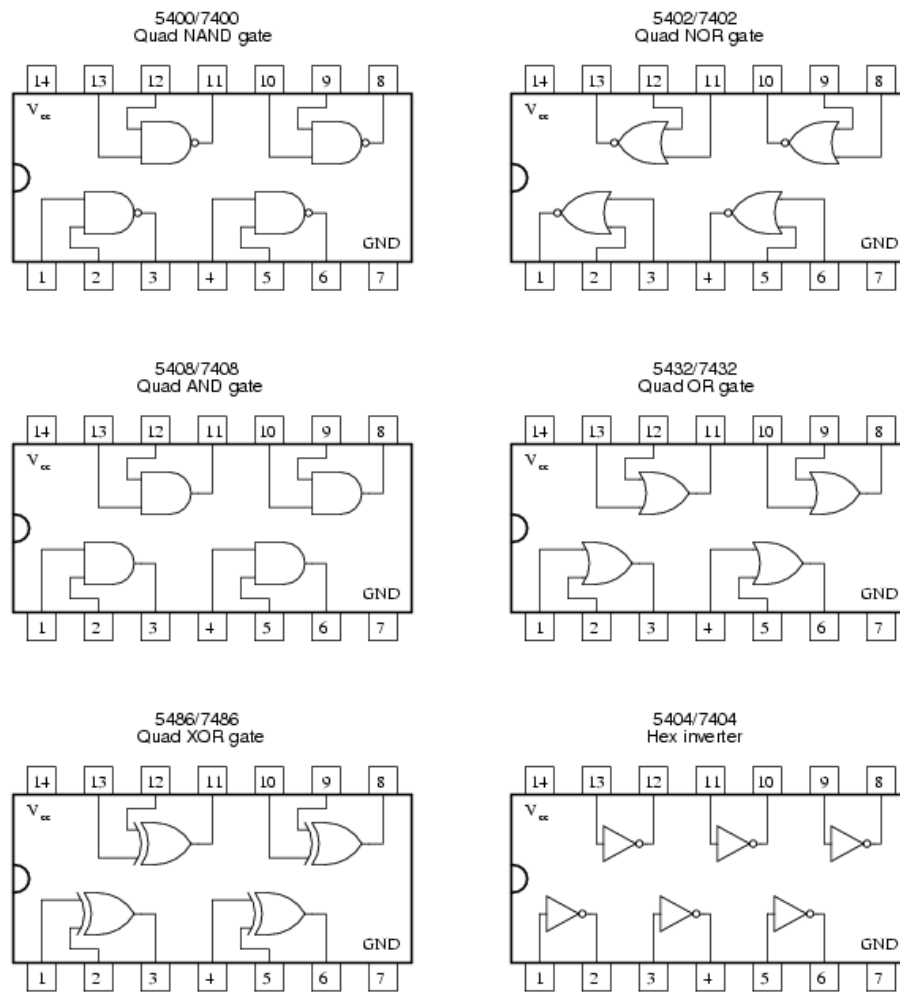

Figure 4.1: DIGITAL GATES IN IC PACKAGES.
3) Design and implement the following circuit using the gates on the chips as shown in Figure 4.1(.
Note: There are several logic ICs numbered from 74xx onwards with letters (xx) in the middle of the number to indicate the type of gate as shown in Figure 4.1. Figure 4.1 shows some digital gates with identification numbers and pin assignments.
2. Place each chip shown in Figure 4.1 on the breadboard in such a way that its pins are not short-circuited. Make sure power is off while you place IC's and connect wires.